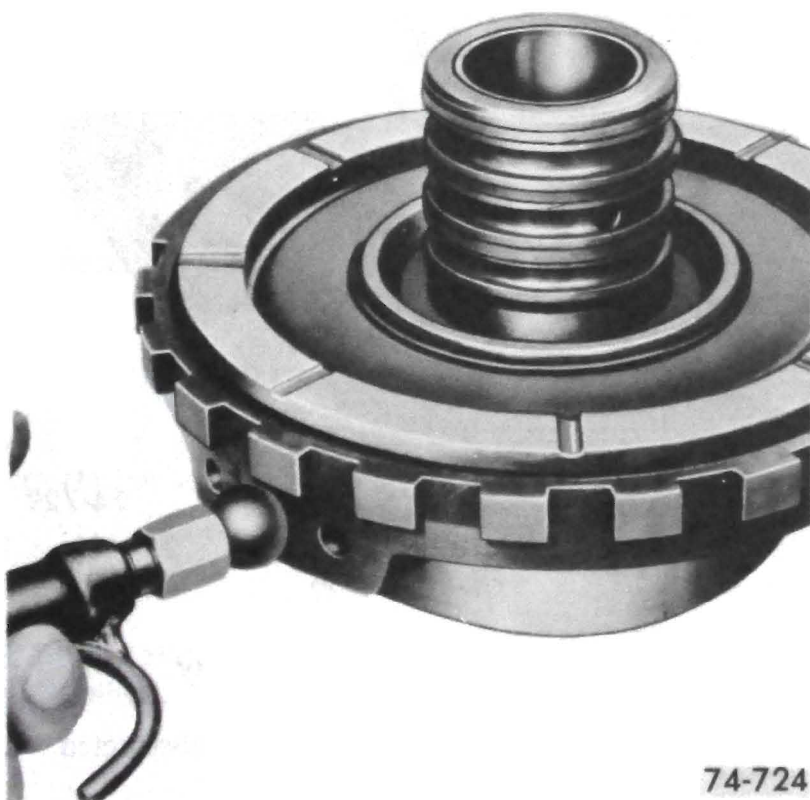

Figure 76-231
8. Air check operation of intermediate clutch piston. See Figure 76-231.